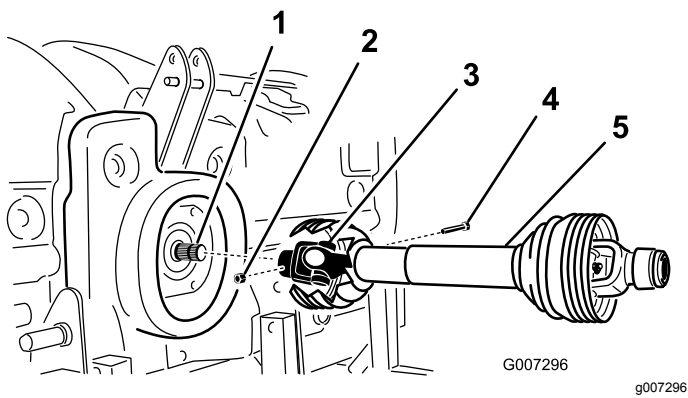

Figure 11
2. Connect the PTO shaft to the gearbox input shaft with a 1/2 x 3.00 inch bolt and a 1/2 inch nut (Figure 11).